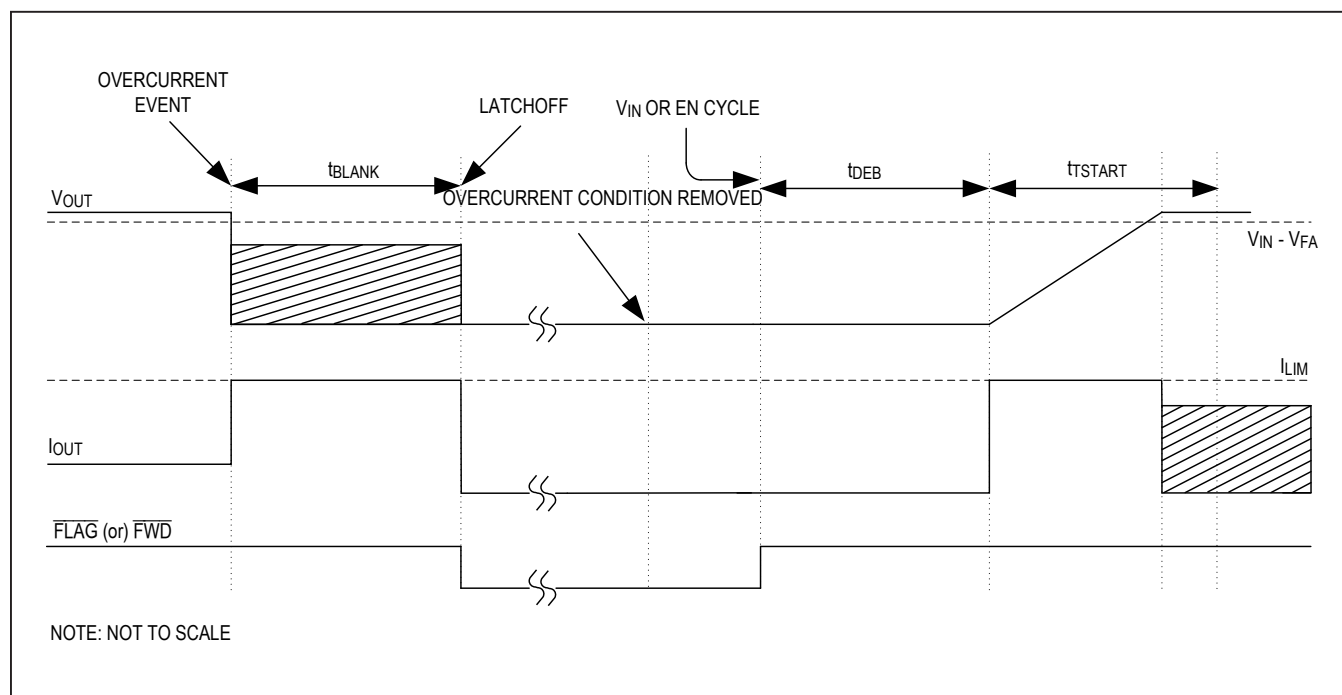

Figure 9. Overcurrent Fault Timing Diagram in Latchoff Current-Limit Mode
In latchoff current-limit mode during normal operation, if the device enters an overcurrent condition, the t_{BLANK} timer starts. The t_{BLANK} timer resets as and when the overcurrent condition resolves before the t_{BLANK} duration has elapsed, and then the normal operation continues. If the overcurrent condition exists for the t_{BLANK} duration or if the device junction temperature reaches T_{JC_MAX} , the output NFET Q2 is turned off and latched, the t_{BLANK} timer resets, and the $\overline{FLAG}$ (or $\overline{FWD}$) pin asserts. To reset the device, either toggle enable control signal (EN) or cycle the input voltage. Figure 9 depicts a typical operating behavior in latchoff current-limit mode.